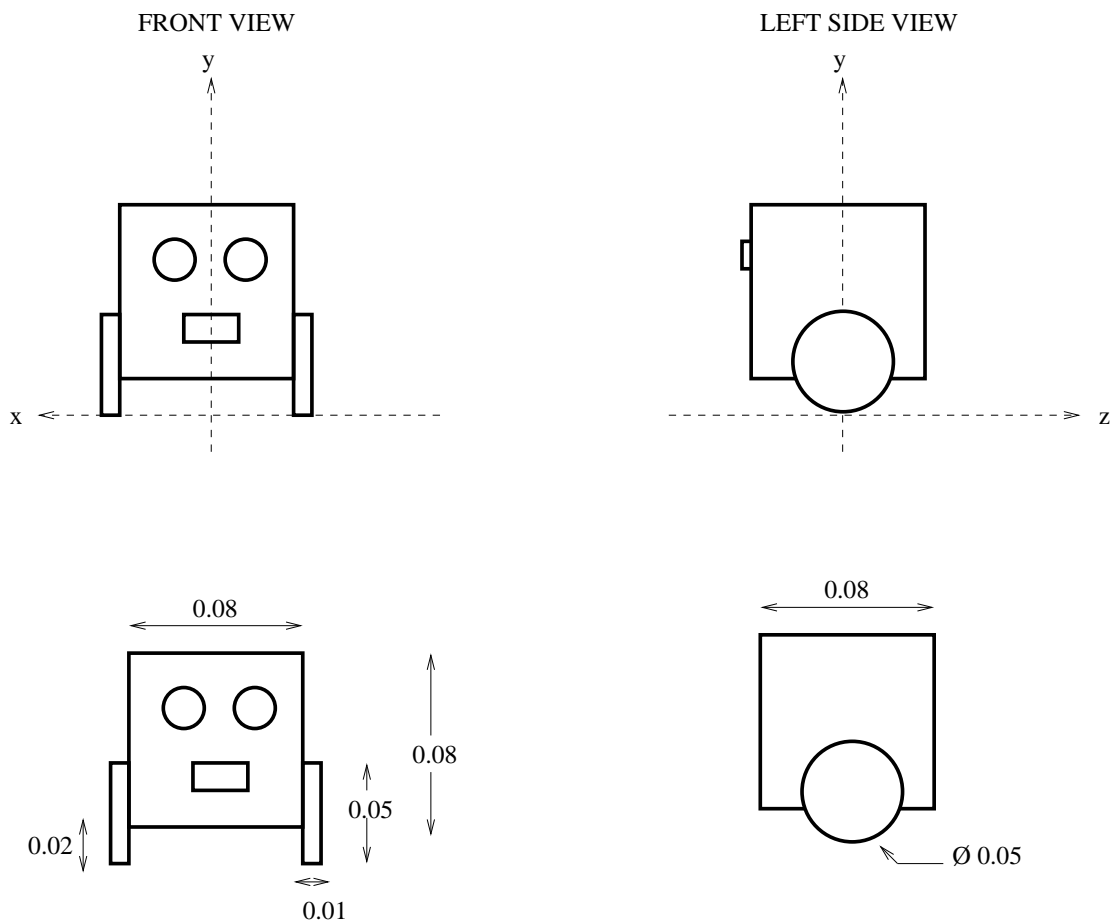

Figure 4.5: Coordinate system and dimensions of the *kiki* robot
The origin and the axis of the coordinate system of the robot and its dimensions are shown in figure 4.5.
3. In the `axleLength` field, enter the length of the axle between the two wheels: 0.09 (according to figure 4.5).